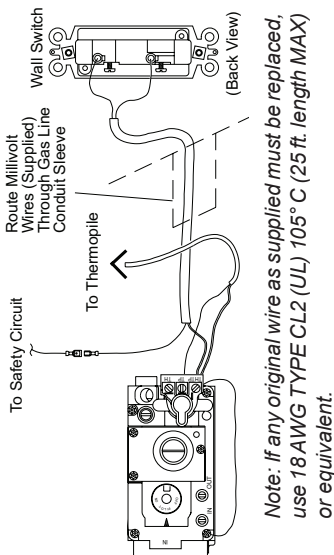

Figure 13 - Wall Switch Wiring Diagram
2. Using wire and connectors provided, attach red wire to terminal marked TH/TP on control valve. Attach white wire to blade connector on open end of safety circuit wiring (see Figure 13, page 12, and Wiring Diagram, page 31).
2. Disconnect wall switch wires from TH/TP terminals on control valve and blade connector on safety circuit wiring (see Figure 13 and Wiring Diagram on page 31).